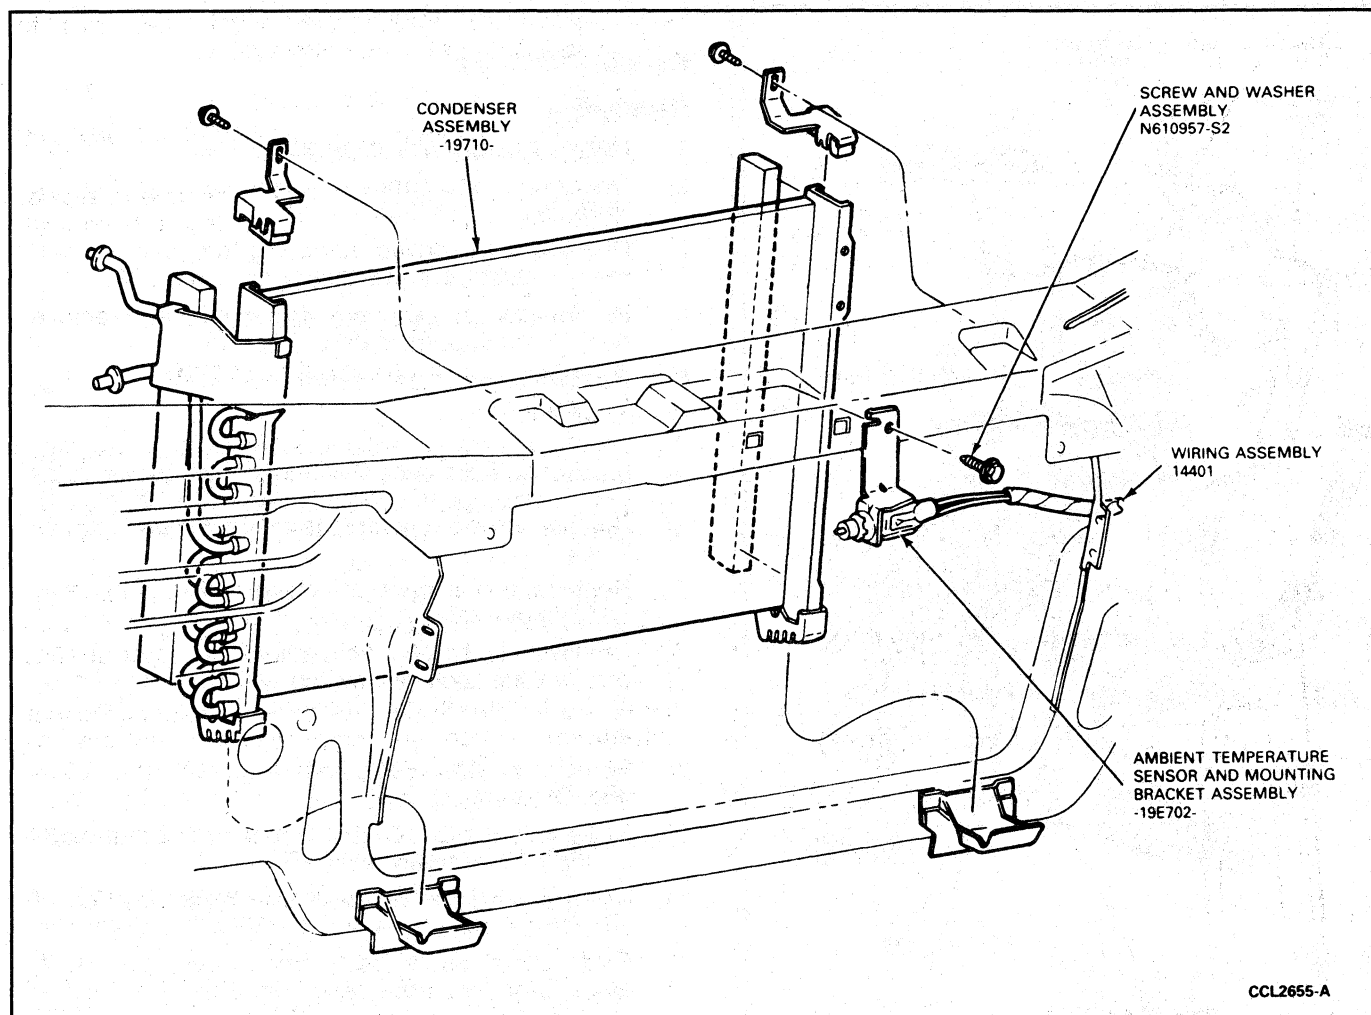

FIG. 26 Ambient Sensor Assembly
2. Remove ambient sensor mounting nut and remove sensor (Fig. 26).